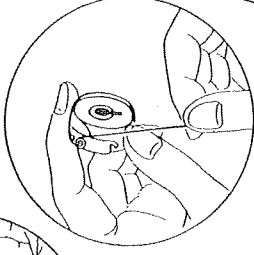

Fig. 5-2
- 3) With the right hand guide the thread into the slot in the edge of the bobbin case. (Fig. 5-2)